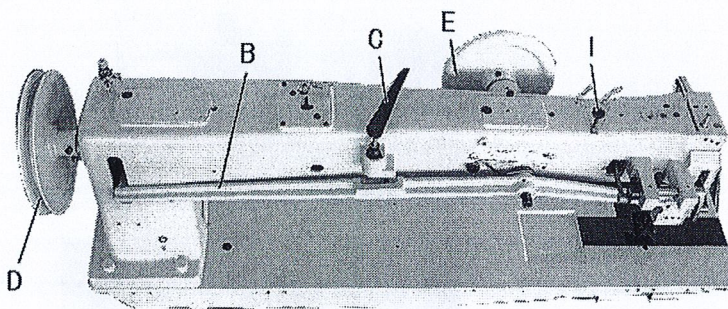

Fig.31
1. Turn the machine pulley or hand wheel (Fig. 31 D & E) until the top of the opener is located at the distance from the needle plate.
2. In this position, adjust it so that the clearance between the inside edge of the opener (A) and the top of the hook is about 0.3 - 0.8 mm.
3. Securely tighten the screw (B) after finished adjustment.